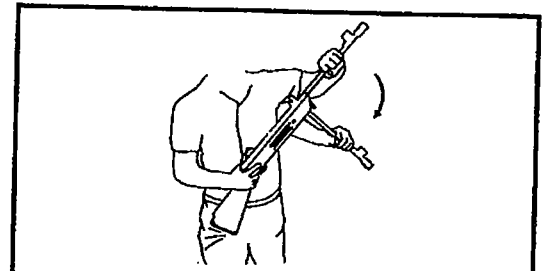

Fig. 4B -
- Some find it easier to cock the airgun when bracing the butt of the airgun against your leg (Fig. 4B).